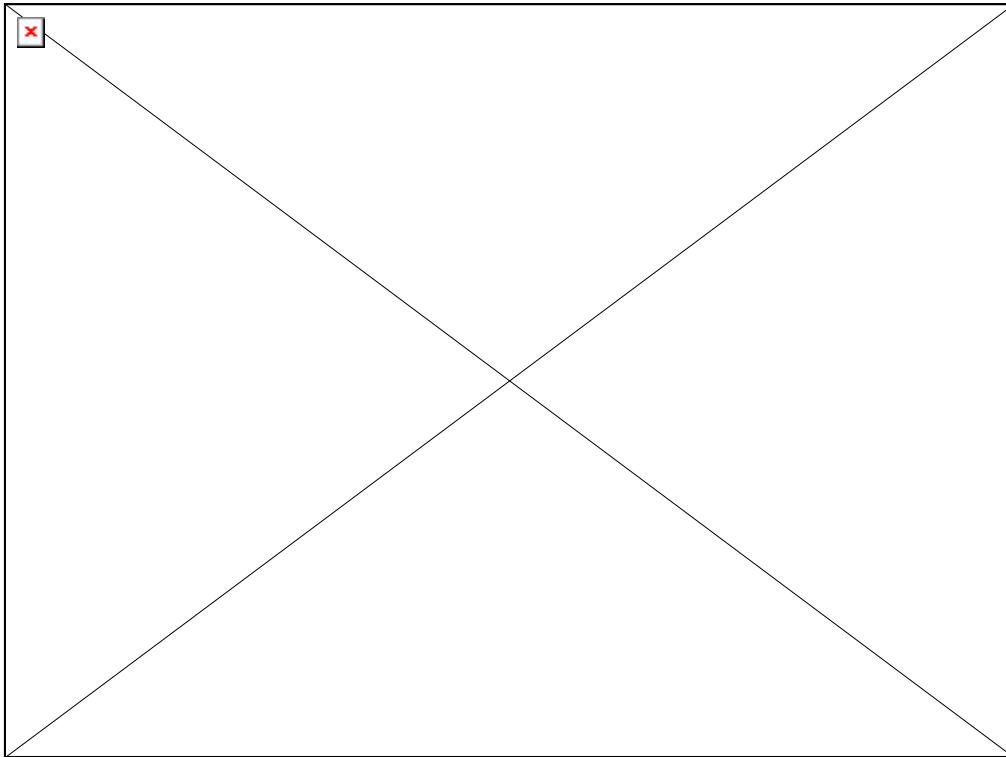
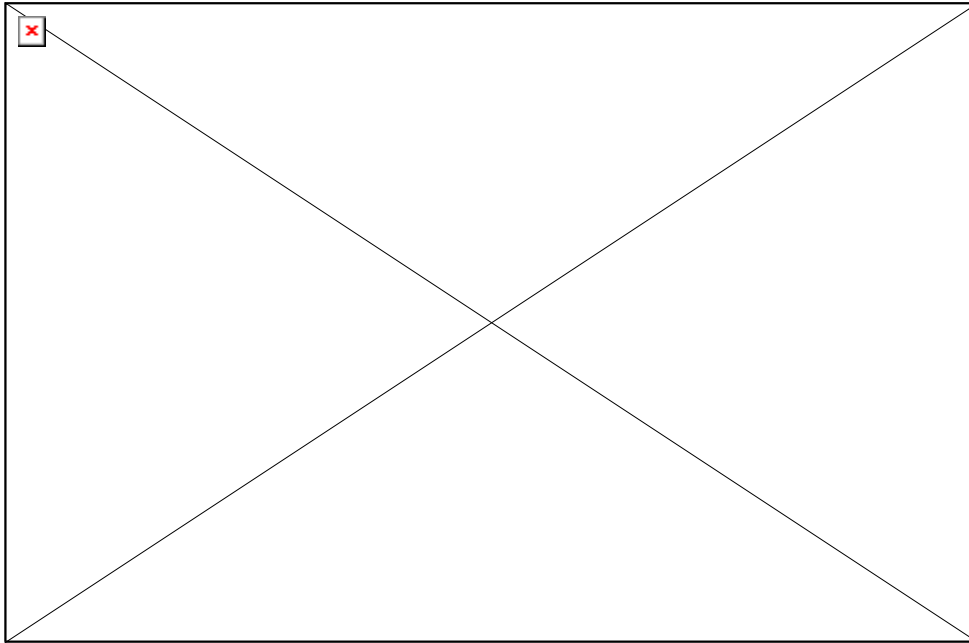

Figure 1. Class 10 Room Layout at Start of Procedure (not to scale)
Figure 2. Side View of RM Cart with QB in RM (not to scale)
5.1.1 Clear the work area such that the room layout is approximately as shown in Figure 1. The X-Y Cart has been moved out of the Class 10 Cleanroom. The Quartz Block /Telescope Assembly is horizontal in the Roller Mechanism on the Roller Mechanism Cart, as shown in Figure 2.